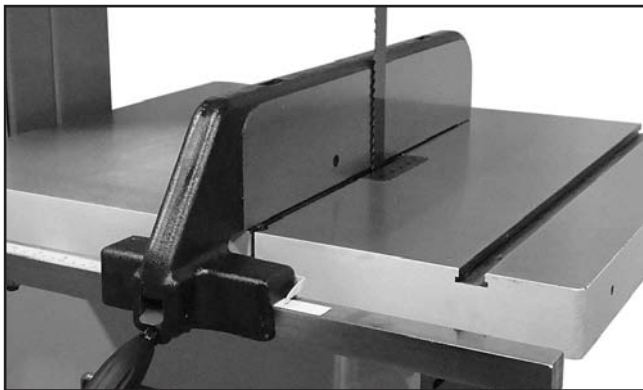

Figure 59. Fence flush with blade.
3. Place the fence flush against the bandsaw blade (**Figure 59**).